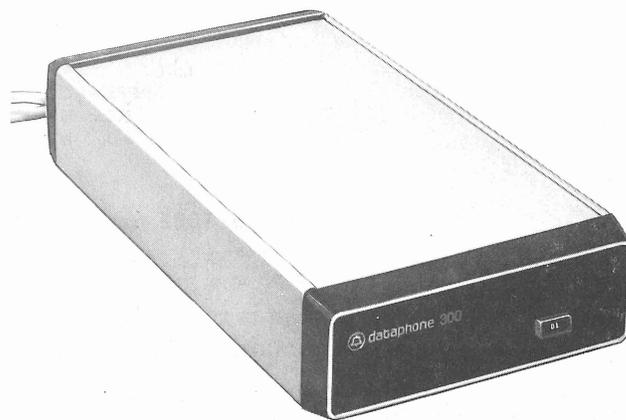
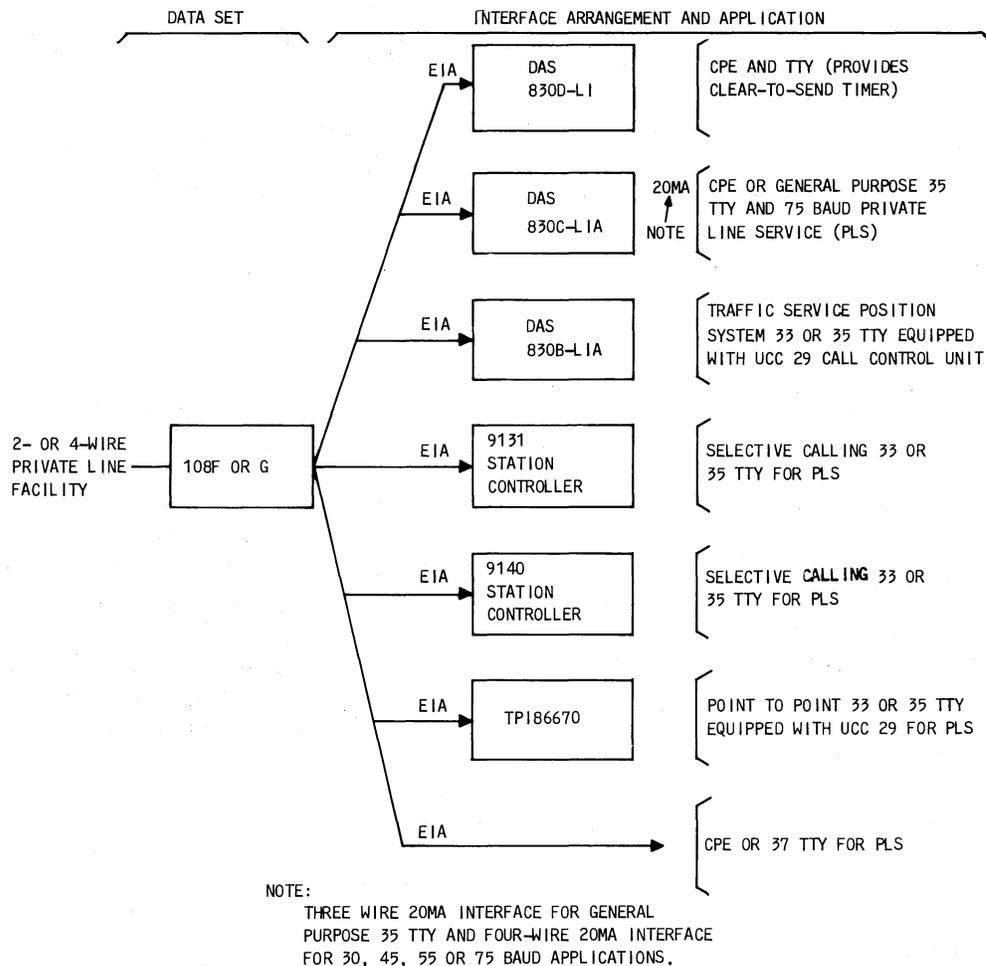

Fig. 1—DS 108F or 108G
Fig. 2—DS 108F and G Interface Arrangements and Applications
1.01 This section contains the physical and functional descriptions and test facilities for data sets (DSs) 108F and 108G (Fig. 1) in private line (PL) service. These data sets function alone or with data auxiliary sets (DASs) 830B-L1A and 830C-L1A using customer-provided equipment (CPE) or Bell System teletypewriters (TTYs) hereafter referred to, collectively, as terminal equipment. Station arrangements with DS 108F and DS 108G used alone and in conjunction with DASs 830B-L1A and 830C-L1A are shown in Fig. 2.